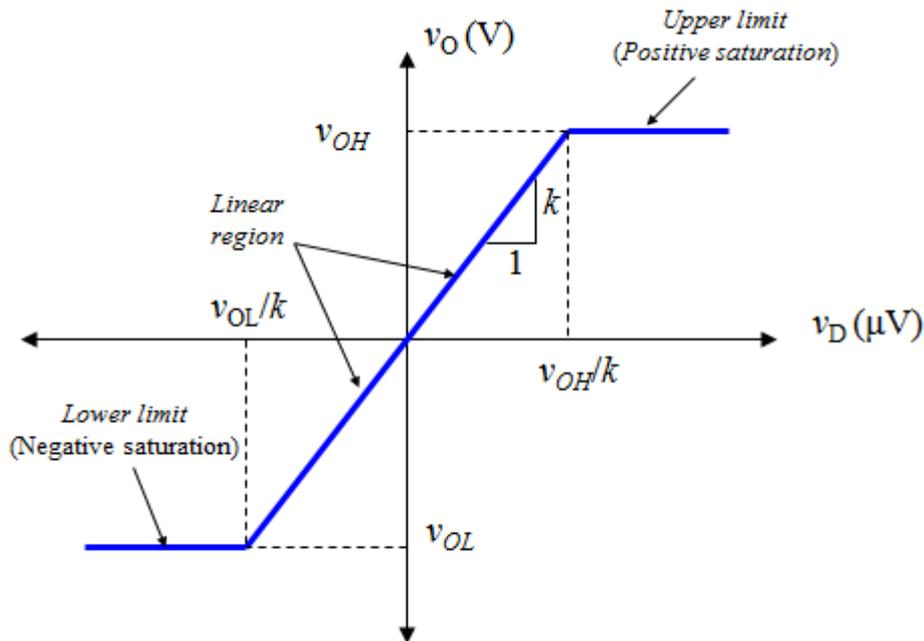

Figure 2. The OPAMP transfer characteristics $v_O - v_D$. The horizontal axis has been extended (μV scale) in order to show the linear region in more detail.
Figure 2 shows the input-output transfer characteristics ($v_O - v_D$) of this component. Taking into account that $v_D = v_P - v_N$ corresponds to the *differential input* voltage, this electronic device is mathematically modelled as
From Fig. 1b it can be seen that is the voltage v_N which tracks v_P and not the other way round. Otherwise, the OPAMP would be unable to control the system and (7) will never hold. Thus, the OPAMP controls v_N via the external feedback network and the output is always within the linear region of Fig. 2, so ideally the voltage gain of the circuit is